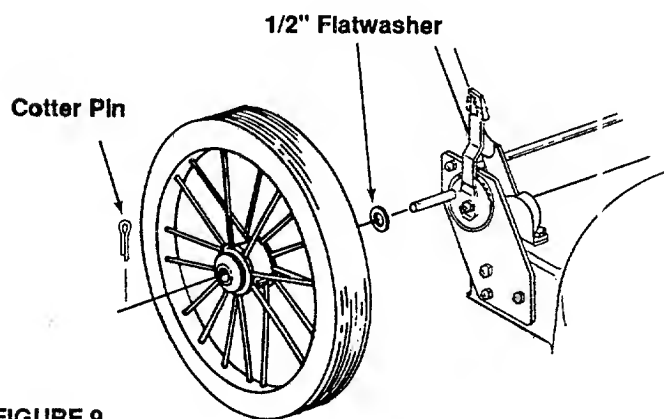

FIGURE 9.
1. Attach rear wheels to adjusters with 1/2" flatwashers and cotter pins. See figure 9. Bend ends of cotter pins to secure.